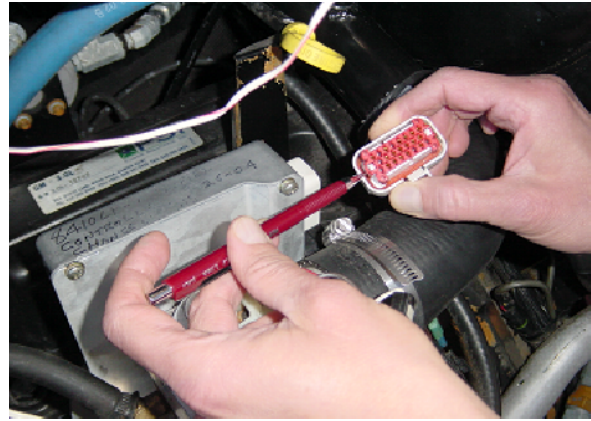

FIG. 5
12. Carefully loosen, (or if necessary, remove) the red locking cover from the white connector to dislodge the connection. Refer to Fig. 5.